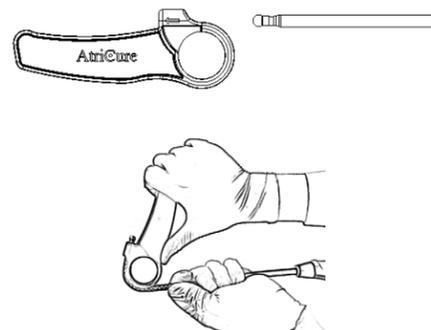

FIGURE 4: FORMING THE SHAFT FLEXIBLE PORTION
6) Insert the PROBE Ball Tip through the TOOL Barrel in the direction of the Insertion Arrow, as illustrated in Figure 4.
7) Rotate the TOOL so the Shaft is rolled into the Bending Channel, as illustrated in Figure 4, until the desired bend angle is achieved.